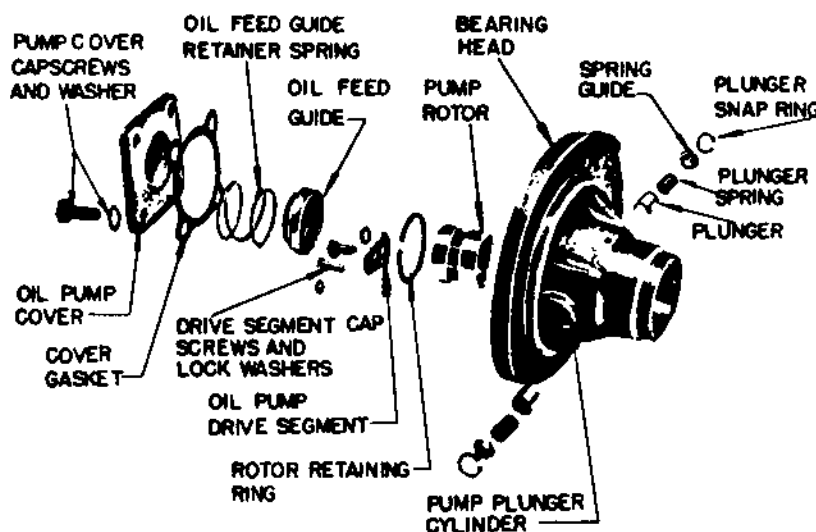

Figure 3-13. Oil Pump and Bearing Head Assembly Exploded View
a. Remove the plunger snap rings with snap ring pliers. As each snap ring is removed, the spring guide, plunger spring, and plunger may be removed from the cylinder in the bearing head. (See figure 3-13.) Identify parts to ensure replacement in same cylinder.